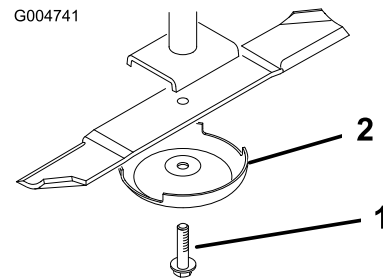

Figure 25
4. Remove the blade bolt, anti-scalp cup, and blade from the spindle shaft (Figure 25).